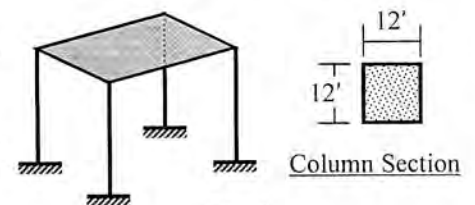

Fig. 8
10. Fig. 8 shows a 10-ft high single-storied RC building having 4 columns subjected to earthquake ground acceleration, $a_g = 20 \text{ Cos}(20t)$.